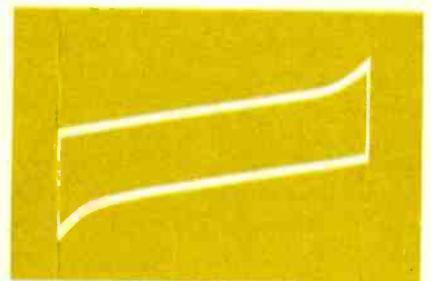
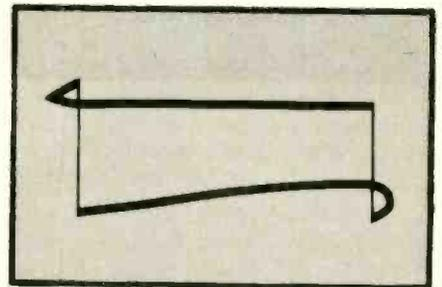

Fig. 6--The tilted or bowed pattern shows poor vertical low frequency response.
Fig. 7--Pattern showing phase shift in the horizontal amplifier.
If it has a poor low frequency response, the pattern will appear as shown in Fig. 6. The more the pattern bows or tilts, the more undesirable the low frequency response. Some bowing or tilting of the pattern is acceptable, but it should be taken into consideration when adjusting the television receiver. Other scope deficiencies are shown in Fig. 7 and 8. If any of these problems appear to excess, they will affect the response curve of the TV set.
ment on. If the power supply overloads under these conditions, the fault is in the trace circuitry; if it does not overload, the problem is the high-voltage system. Observation of the waveform at the anode of SCR2 also is helpful in isolating faults. The appearance of the waveform under various circuit conditions is shown in Fig. 6.
Fig. 6--Waveform at anode of SCR2. (A) Normal operations, brightness minimum. (B) Normal operation, brightness maximum. (C) Q1 shorted, any brightness setting. (D) T2 primary open, any brightness setting. (E) SCR1 shorted. (F) Capacitor C3 reduced to .0022 μ f. (G) HV transformer disconnected, no circuit faults. (H) HV transformer disconnected, capacitor C3, reduced to .022 μ f. (I) HV transformer disconnected, C1 leaky (10 Ω).